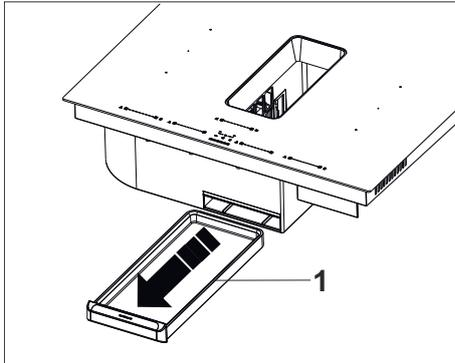

Fig. 5
1. → First remove the water tank to replace active carbon filter (Fig. 5).